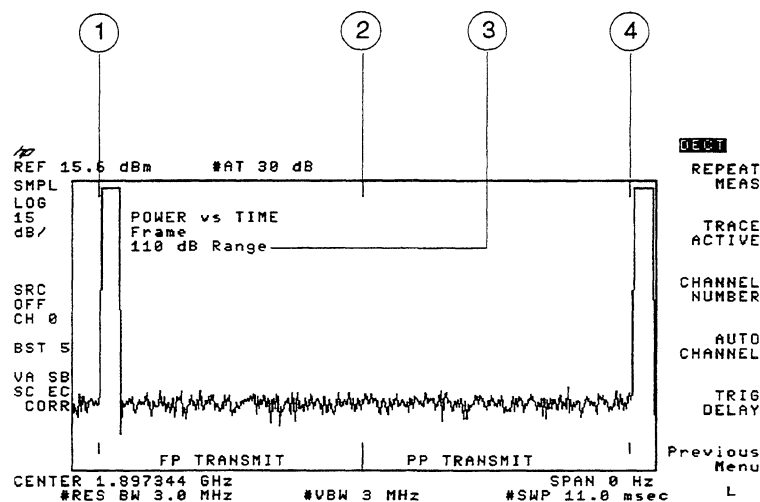

Figure 2-9. Viewing a Frame
- 4 If the edges of the burst are not where you should expect them (see number 1 in Figure 2-9 for an example of the start of the frame), press **TRIG DELAY**, then use the large knob on the spectrum analyzer's front panel to adjust the trigger delay until the start of the burst is aligned with the small vertical line on the spectrum analyzer display.
P vs T FRAME displays one time frame (one time frame is the time period in which both the FP and PP transmissions occur). The results from **P vs T FRAME** can help you to check your test setup for problems, but for more accurate measurements you should use **P vs T RISING**, **P vs T FALLING** or **P vs T BST ON**. Refer to Figure 2-9 for an example of viewing a frame.